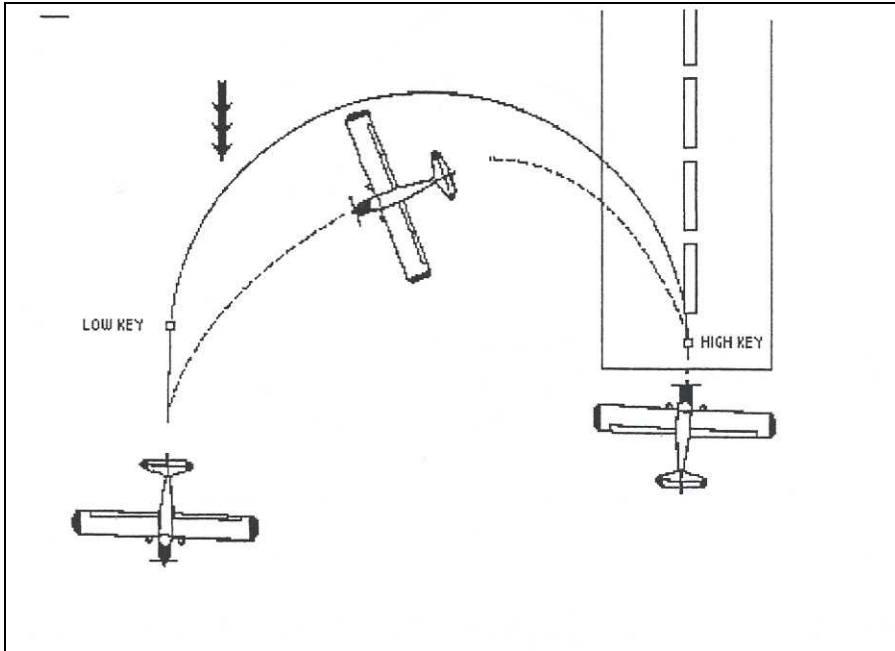

Figure 7-3 Effects of Strong headwind
5. If there is a strong wind straight down the runway, delay the turn at high key so that the aircraft arrives upwind of the ideal position (Figure 7-3). If you do not delay the turn, you will arrive at low key altitude past the end of the runway and will not have enough energy to make it back to the landing field.